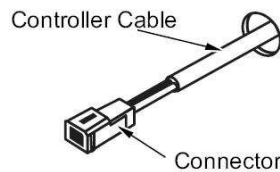

Fig. 2
3. Run the cable provided through the hole in the wall ensuring that the end fitted with the connector is nearest the controller (Fig.2).
3. Plug in the EZ Connect cable. The end marked "To EZ Connect" connects in the primary Infinity water heater to the 3 pin connector seen in Fig. 2. The other end, marked "To PCB", connects to the empty plug at the top of the PCB of the other water heater (sub unit.). (Fig. 2 and 3)
5. Attach pressure gauge to burner test point. (Fig. 2)